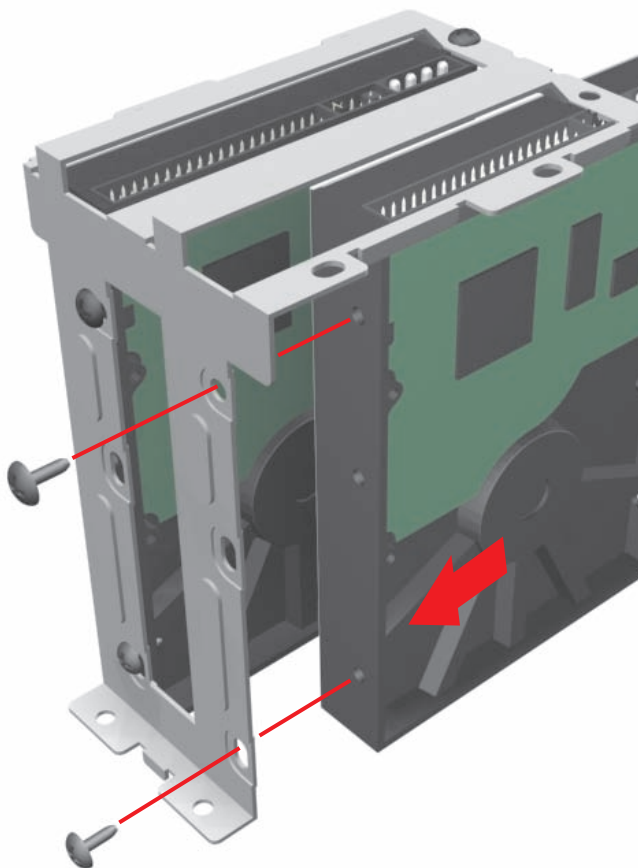

Figure 12. Inserting Drives into Basket
1. Mount Hard Disk 2 adjacent to Hard Disk 1 in the drive basket closest to the CD-RW drive. Refer to Figure 12 below.